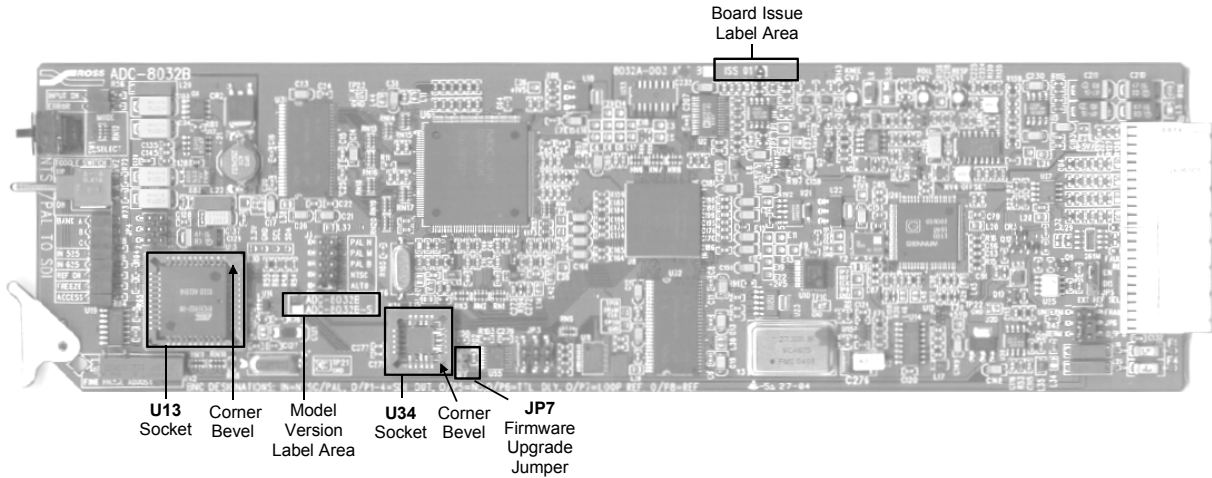

Figure 8. Frame Synchronizer Socket and Label Location
2. Refer to Figure 8 and the card labeling to locate the existing IC chip in socket **U13**.
1. Refer to Figure 8 and the card labeling to locate socket **U34**.